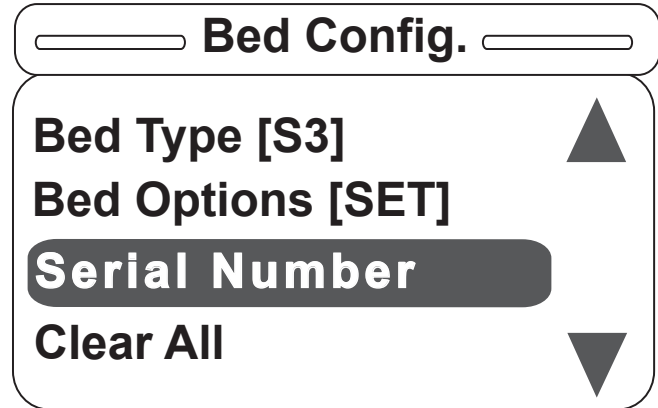

Figure S-22
22. Hitting "Exit" on the footboard panel while in the Bed Options screen will return the user to the Bed Config. main menu as shown in Figure S-22. Note that the user can see the state of the items previously set.